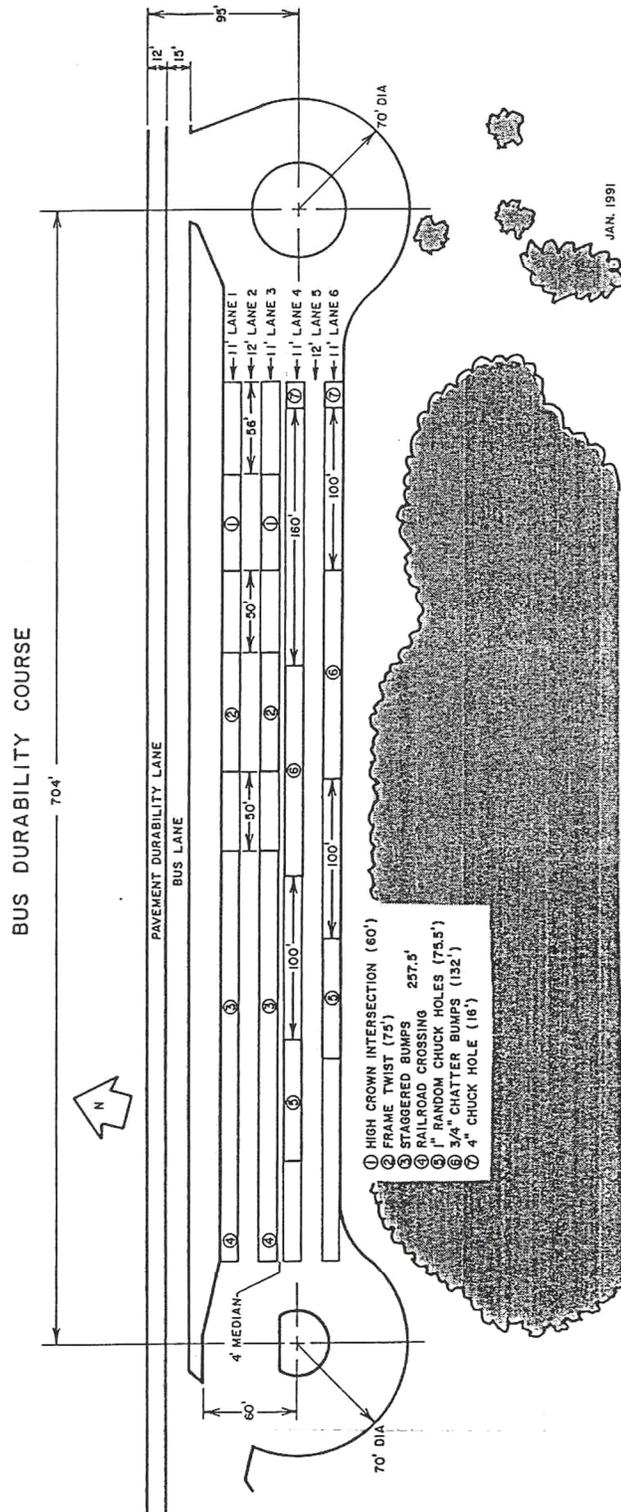

Figure 5.7-1. Plan view of the PSBRTF durability test track.
The test article is driven on the structural durability test track for the required total number of miles designated for the service-life category under which it was submitted for testing (see Table 5.7-1). The durability test track consists of seven different stress inducing elements that subject the bus to the types of events expected to be encountered during transit service. Figures 5.7-1 through 5.7-8 provide a detailed profile for each stress inducing element located on the durability test track. The test speed is posted in front of all durability elements. The bus speeds on the durability elements are as follows: 20 mph on the 1” random chuck holes, chatter bumps and high crown Intersection; 10 mph on 6” staggered bumps, frame twist and the end turnarounds; 8 mph on railroad crossing; and 5 mph on the 4” Chuck Hole. The test will be conducted with the bus operated under three different loading conditions. The first segment will be performed with the bus operated at the gross vehicle weight (GVW). The second segment will be performed with the bus operated at seated load weight (SLW). The remainder of the test will be conducted with the bus loaded to curb weight (CW). The number of miles required for each service-life category at each loading condition is provided in Table 5.7-1.